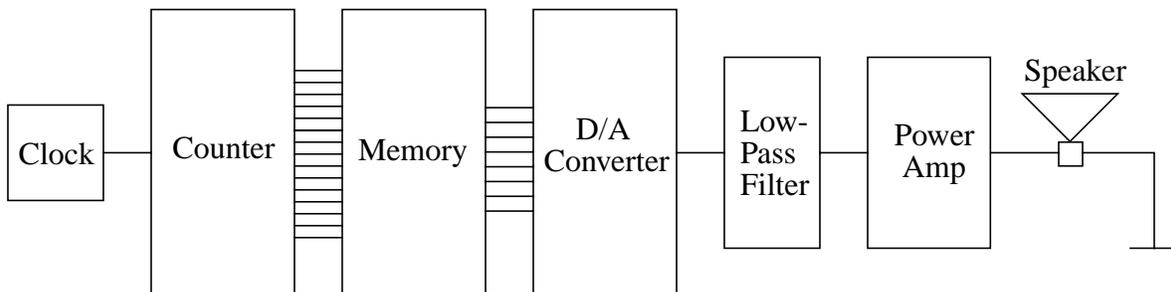

Figure 1: block diagram of the audio playback system.
A block diagram of the audio playback system is shown in Figure 1. At the center of the system is a digital memory in which 32,768 samples of the audio signal are stored. Each sample in the memory has a unique numerical address between 0 and 32,767, inclusive. Consecutive samples are stored at consecutive addresses.
In the course of this homework assignment you will analyze and design four of the functional blocks shown in Figure 1. These blocks are the clock, the digital-to-analog converter, the low-pass filter and the power amplifier. In Lab #4, you will construct these blocks and verify that they perform as desired. Then, you will combine them with the counter, the read-only memory and the speaker to construct and demonstrate the entire audio play-back system. Since you will construct the system from the components in your 6.002 lab kit, your design of the blocks must account for the fact that the available components are limited.
- (E) For the choice of  $R$  and  $C$  from Part (D), sketch and clearly label a single graph that displays  $v_{CAP}$ ,  $v_{OSC}$  and  $v_{CLK}$  as a function of time over one period of oscillation.
**ANSWER:** The graph is shown in Figure 4. Using the equations from Parts (A) and (B),  $T_1 = 59.6 \mu s$  and  $T_2 = 64.8 \mu s$ . These times are included in Figure 4. Notice that  $T_1 \neq T_2$ . This does not affect the operation of the counter because the counter in Figure 1 is triggered only by either the rising or the falling edge of  $v_{CLK}$ , but not both.